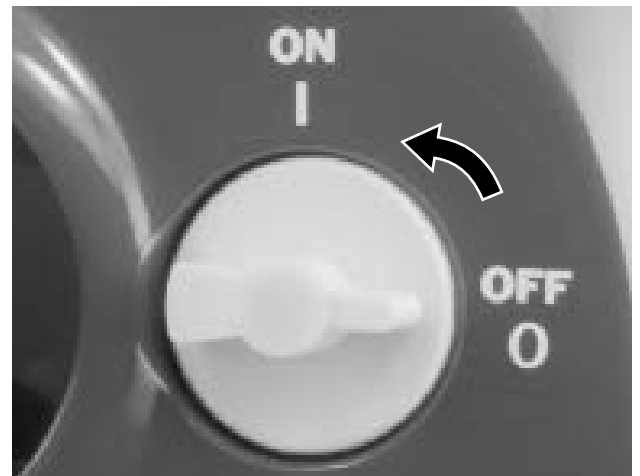

Figure 28 – Engine/Fuel Control Switch
2. Turn the engine/fuel control switch to the **ON** position (see *Figure 28*).